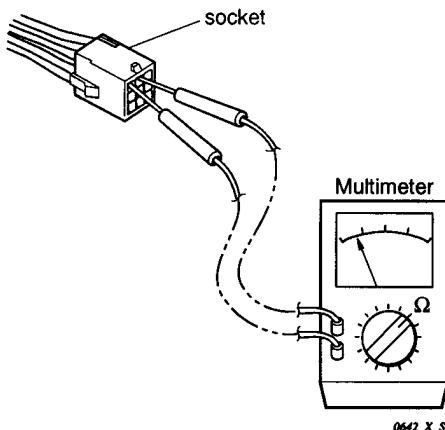

Fig. 9
- Then check continuity among plug's (and/or socket's) terminal as in Fig. 9.